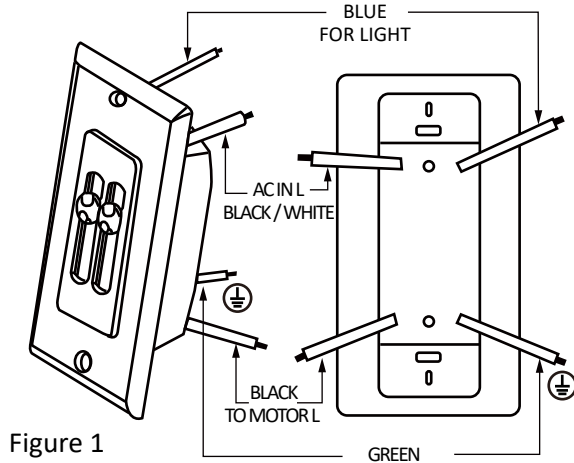

Figure 1
2. Installation of this control requires that a three-conductor cable with ground wires be run between the control wall box and the ceiling fan outlet box. (Figure 1)